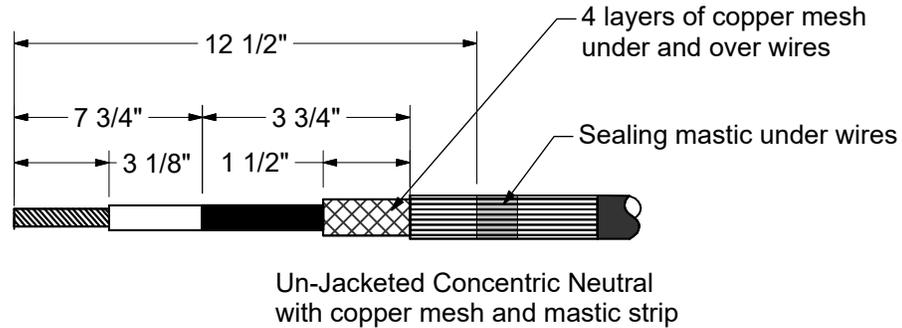

Figure 2
A. Bare concentric neutral cable will be prepared using the dimensions shown in Figure 2.
- A. After preparing the BCN cable as shown in Figure 2, carefully lift the bare concentric neutral wires and clean the underlying semicon.